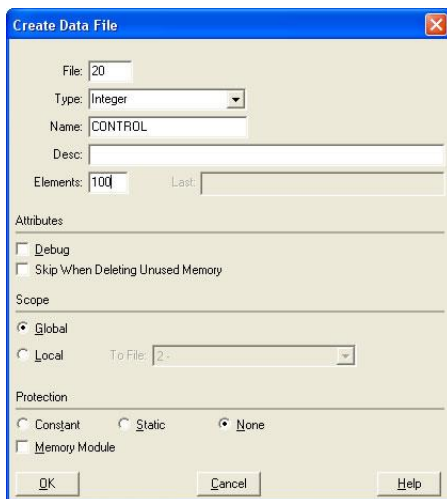

Figure 61: Creating a Control File
- a) Right click Data Files and select New... The "Create Data File" dialog box appears (refer to Figure 61).